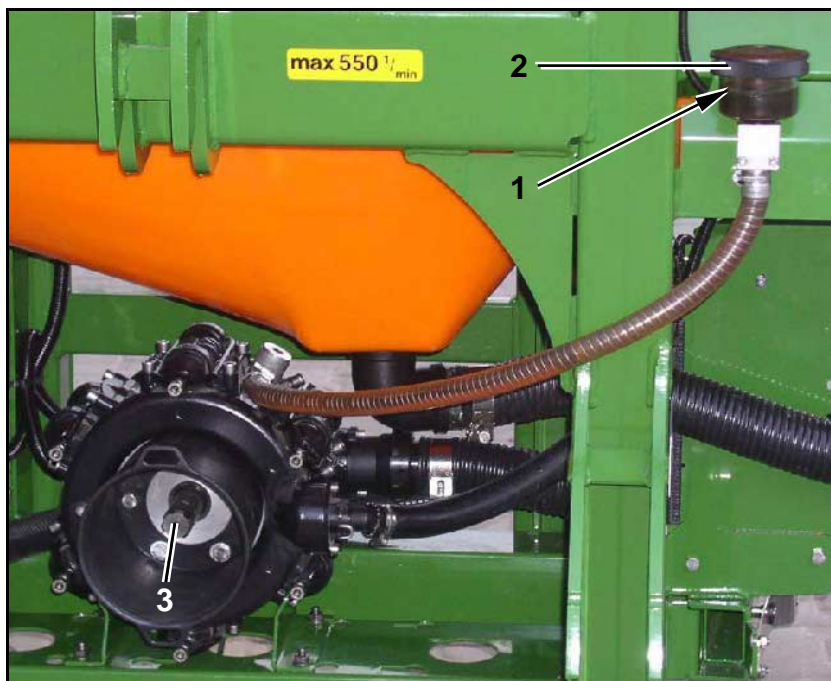

Fig. 219
1. Check whether the oil level at the mark (Fig. 219/1) is visible with running pump in horizontal position.
2. Remove the lid (Fig. 219/2) and top up oil if the oil is not visible at the mark (Fig. 219/1).
2. Take off the lid (Fig. 219/2).
- 3.2 Spin drive shaft (Fig. 219/3) by hand until the old oil is fully drained off.
5. Turn the drive shaft (Fig. 219/3) alternating to the right- and left hand side and slowly fill in new oil. The correct oil quantity has been filled in when the oil is visible on the markings (Fig. 219/1).